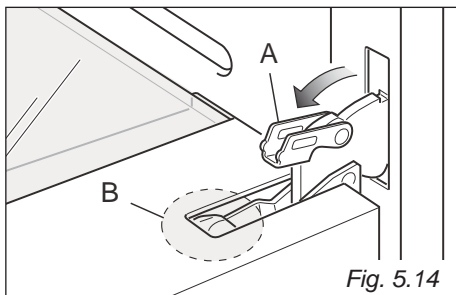
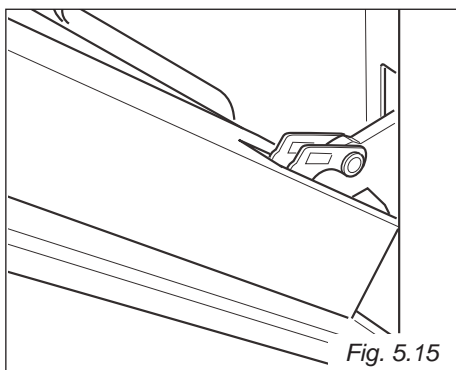

Fig. 5.14
Fig. 5.15
- Open the lever "A" completely on the left and right hinges (fig. 5.14).
- Gently close the door (fig. 5.15) until left and right hinge levers "A" are hooked to part "B" of the door (fig. 5.14).
1. Make sure the door is locked open (see fig. 5.15).